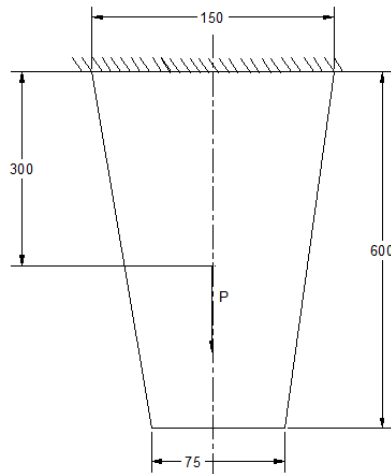

Figure: 4
- b. A thin plate as shown in Figure 4 has a uniform thickness of 20 mm and a modulus of elasticity is $200 \times 10^3 \text{ N/mm}^2$ and density of 7800 kg/m^3 . In addition of its self-weight, the plate is subjected to a point load P of 500 N which is applied as shown in Figure 4. 07